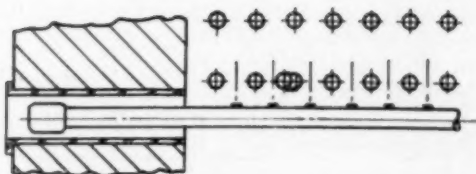

Fig. 3. Incorrect. Jet impinging on warped or distorted tube will cut the tube.
- (b) Are the boiler tubes in proper position? A warped or distorted tube may be forced into the path of the jet, causing impingement and cutting. The boiler tube must be corrected, or the nozzle in the element striking the offending tube must be welded shut, if failure by cutting is to be avoided. (See Fig. 3.)